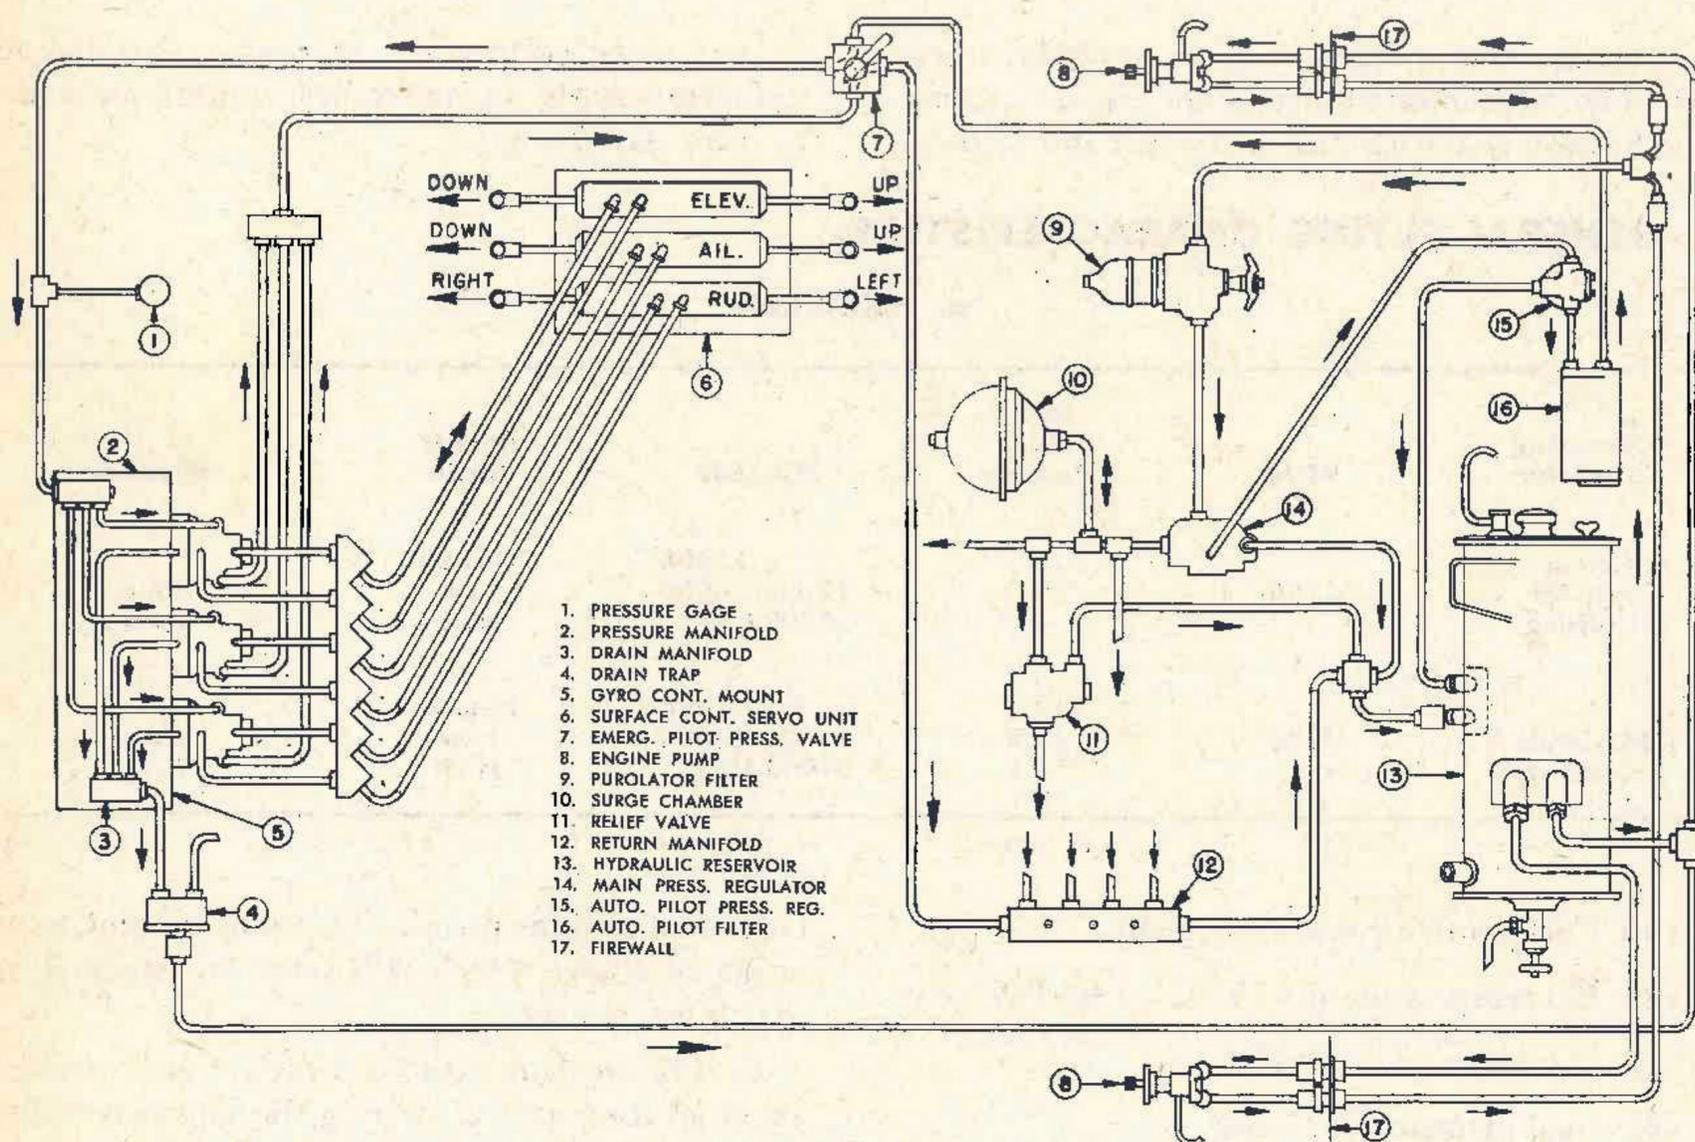

Figure 19—Auto Pilot System
c. AUTOMATIC PILOT. (Fig. 19)
(1) OPERATION.
- (2) Do not permit the automatic pilot to con-